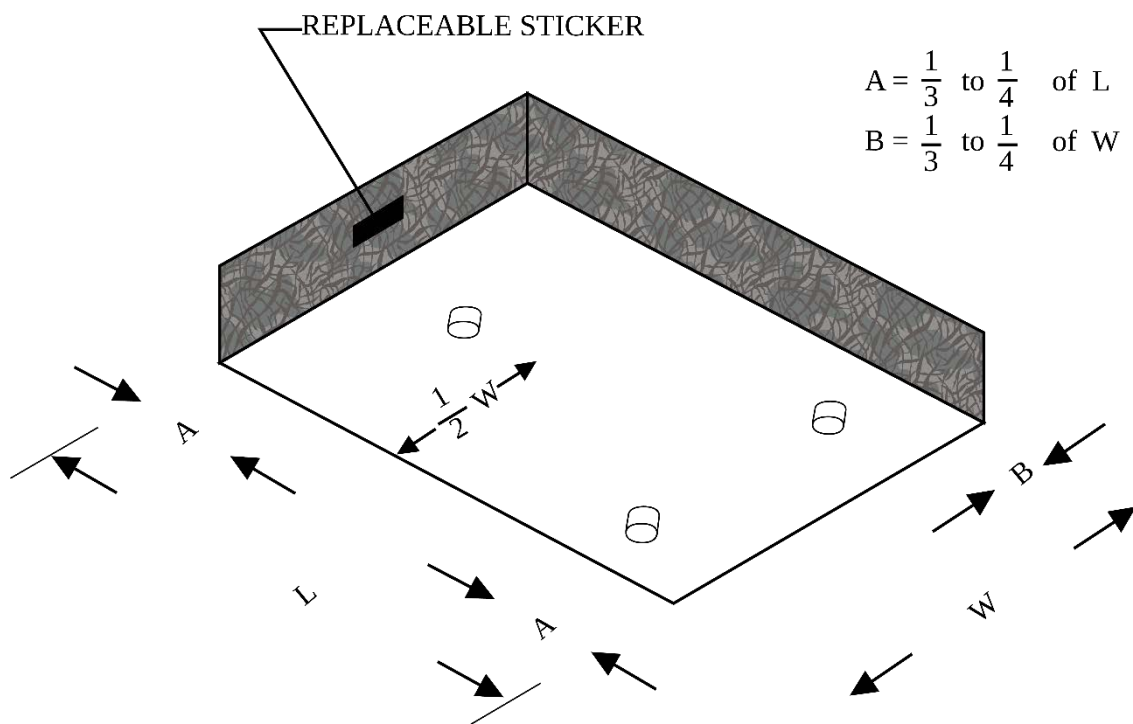

FIGURE 5. Support layout for rectangular surface plate.
3.2.5 Supports. Unless otherwise specified, support of the surface plate shall be by three fixed feet, located according to figures 5 and 6 to support the work surface properly, and to minimize sag and warp. When the three fixed supports have special requirements due to their location, abnormal load and/or vibration conditions, the supports and their locations shall be specified on the purchase order (see 6.2(e) and appendix 40).
3.2.5.1 Rectangular plates. The support pads shall be located no less than one-fifth or more than one-fourth of the length and width in from the ends and sides, respectively, with the exception that the single pad at one end shall be located in the center (see figure 5).